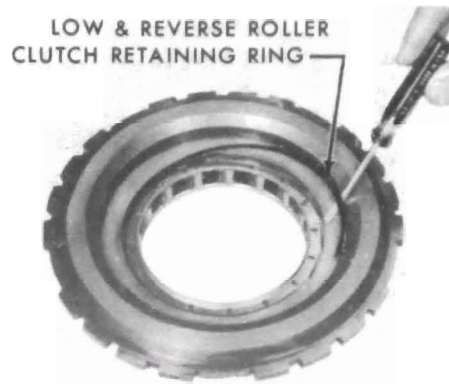

Figure 75-227
3. Install low and reverse clutch to cam retaining ring. See Figure 75-227.